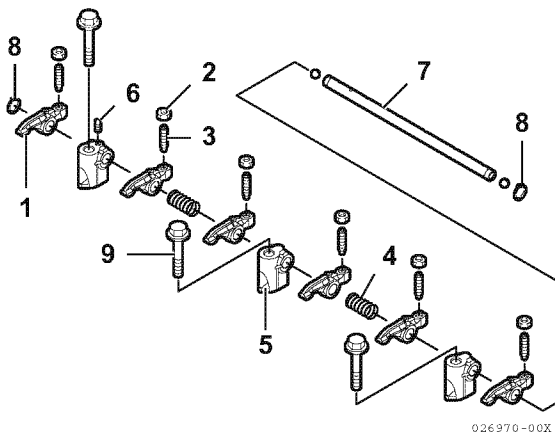

Figure 6-32
1. Lubricate the rocker arm shaft. Slide the rocker arm supports (Figure 6-32, (5)), springs (Figure 6-32, (4)) and rocker arms (Figure 6-32, (1)) onto the shaft.
2. Align the hole in the rocker arm shaft (Figure 6-32, (7)) and the hole in the rocker arm support. Install the alignment setscrew (Figure 6-32, (6)).
4. If removed, install the valve adjusting screws (Figure 6-32, (3)) and lock nuts (Figure 6-32, (2)).